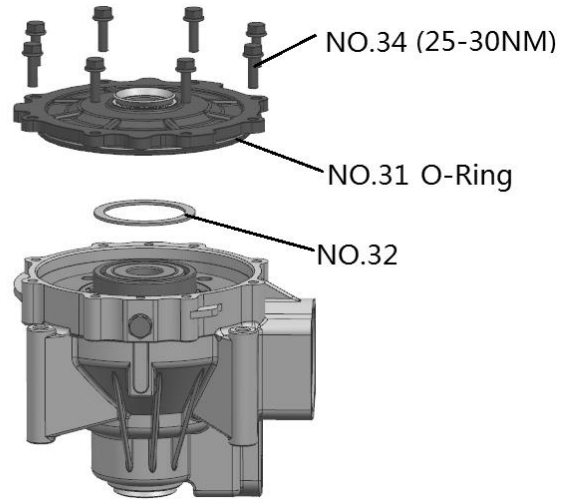

Fig 18
9. Install the original shims (NO.32) and the new O-ring (NO.31) onto the Rear Axle Box Cover (NO.33), then assemble the Rear Axle Box Cover (NO.33) and install the bolts that secure the cover to the housing. Torque the bolts in a criss cross pattern to **25-30Nm**. → Fig 18